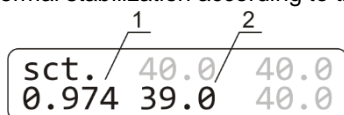

Figure 5. Changing the coefficient:
6.4.6. Using the ▲ and ▼ T, °C keys, change the calibration coefficient (fig. 5/1) so that the new temperature value (fig. 5/2) corresponds to the independent sensor temperature. In our example, the calibration coefficient will be 0.974.